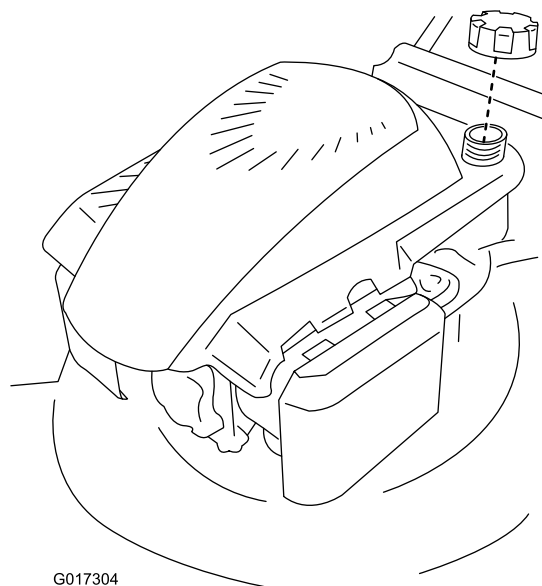

Figure 9
1. Clean around the fuel-tank cap, and remove the cap from the tank (Figure 9).